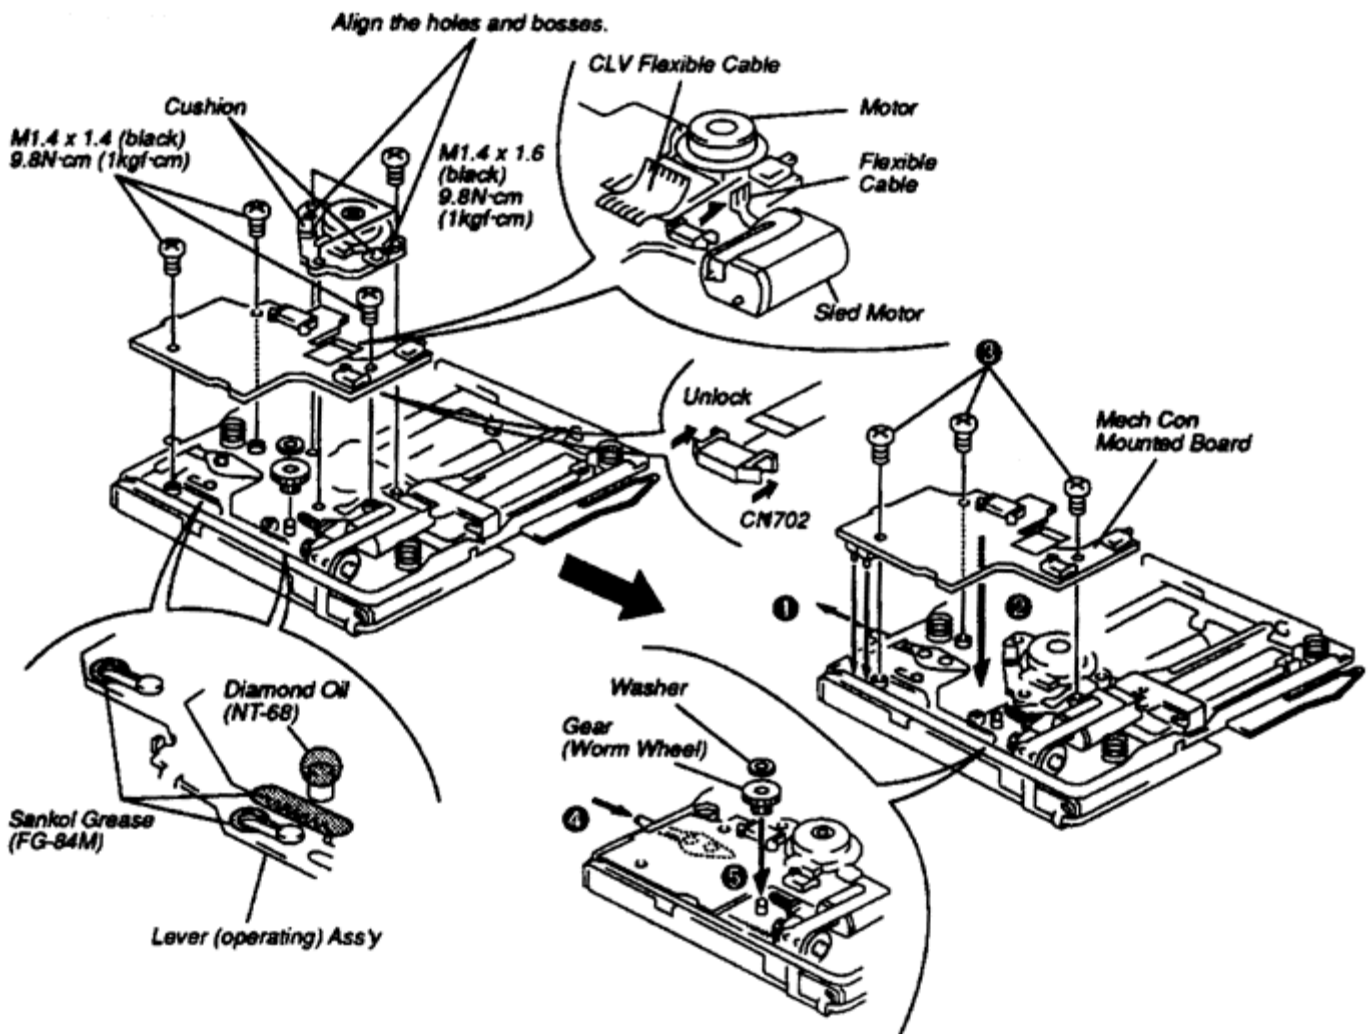

Fig. 4-8 (d) Mech Con Mounted Board Replacement and Oil/Grease Application Location
- a. Remove the three screws (P1.7x1.6/black) securing the Motor and then pull it straight up. (Refer to Fig. 4-8(d))
- a. Remove the two screws (P1.7x1.6/black) securing the Gear Chassis Block Ass'y and then remove the Gear Chassis Block Ass'y. (Refer to Fig. 4-8(e))
- b. Remove the Stopper Washer from the shaft with Tweezers and then pull the Worm Gear and Compression Spring up. (Refer to Fig. 4-8(e))
Note: Before installing, apply Diamond Oil (NT-68) to the shaft of Gear Chassis Block Ass'y. (Refer to Fig. 4-8(e))